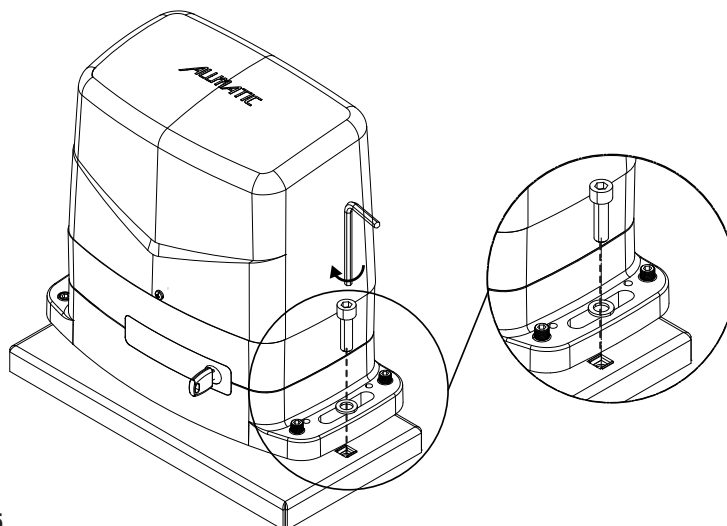
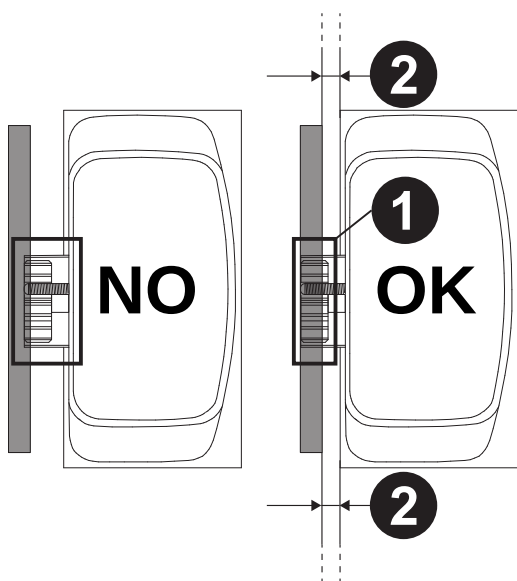

Fig. 5
Fig. 8
To fix the motor to the counterplate, insert and screw the two Allen screws into the appropriate housing (Fig. 5). Position the motor in parallel with the gate and with the gear under the rack as shown in Fig. 8.
- 1** WARNING! Position the motor with the pinion under the rack as shown in figure 8.